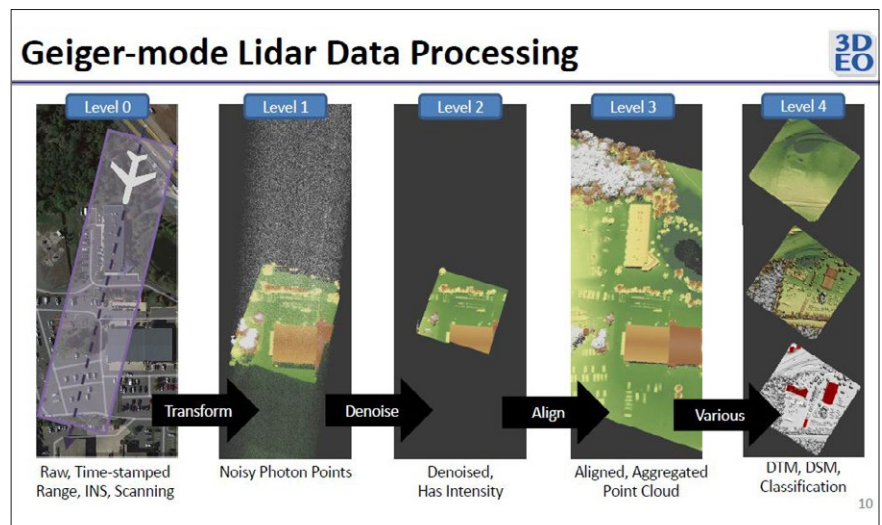

Figure 14: 3DEO workflow for Geiger-mode lidar data processing.
**3DEO:** Dr. Kimberly Reichel-Vischi represented 3DEO, Inc. She re-introduced attendees to Geiger-mode lidar technology and highlighted some of the advantages of the 3DEO Zion system. She also demonstrated the 3DEO workflow for Geiger-mode processing (Figure 14).